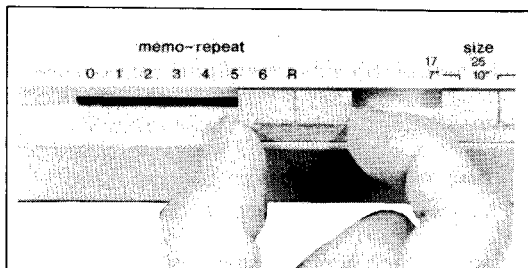

Fig. 6
1. Set the "memo-repeat" knob to the desired number of times you wish to play. (See Fig. 6.)